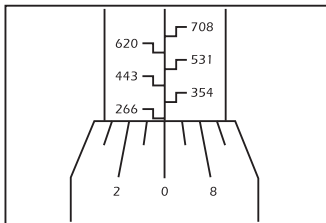

FIG.4
2. 266 in-lb. whole number (Fig.4).